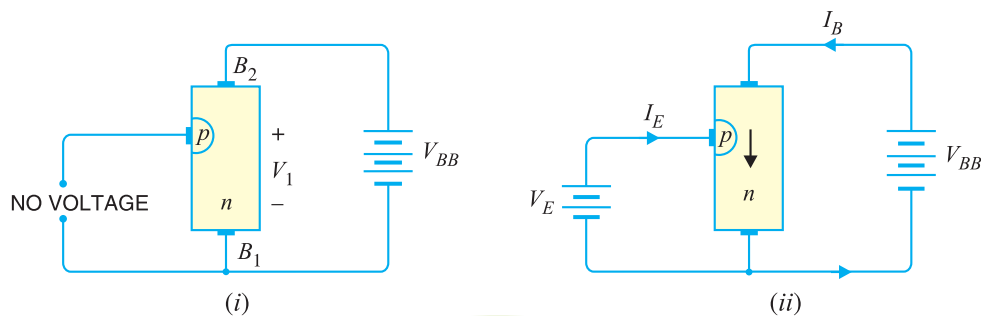

Fig. 21.25
**Operation.** Fig. 21.25 shows the basic circuit operation of a unijunction transistor. The device has normally  $B_2$  positive *w.r.t.*  $B_1$ .
(i) If voltage  $V_{BB}$  is applied between  $B_2$  and  $B_1$  with emitter open [See Fig. 21.25 (i)], a voltage gradient is established along the *n*-type bar. Since the emitter is located nearer to  $B_2$ , more than \*\*half of  $V_{BB}$  appears between the emitter and  $B_1$ . The voltage  $V_1$  between emitter and  $B_1$  establishes a
(ii) If a positive voltage is applied at the emitter [See Fig. 21.25 (ii)], the  $pn$  junction will remain reverse biased so long as the input voltage is less than  $V_1$ . If the input voltage to the emitter exceeds  $V_1$ , the  $pn$  junction becomes \*forward biased. Under these conditions, holes are injected from  $p$ -type material into the  $n$ -type bar. These holes are repelled by positive  $B_2$  terminal and they are attracted towards  $B_1$  terminal of the bar. This accumulation of holes in the emitter to  $B_1$  region results in the decrease of resistance in this section of the bar. The result is that internal voltage drop from emitter to  $B_1$  is decreased and hence the emitter current  $I_E$  increases. As more holes are injected, a condition of saturation will eventually be reached. At this point, the emitter current is limited by emitter power supply only. The device is now in the *ON* state.